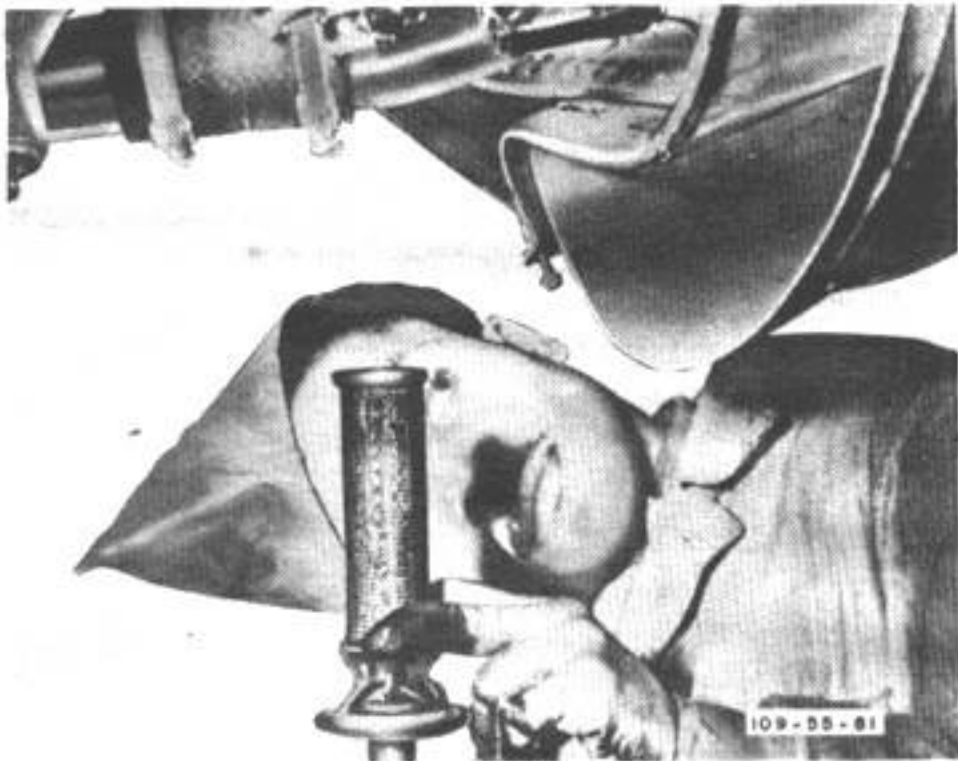

Figure 7—Removing the Crankcase Oil Screen
5. Drain the oil from the engine and the oil tank by removing the oil screens (*figure 7*) and the sump plug from the engine, and the drain plugs from the oil tank.